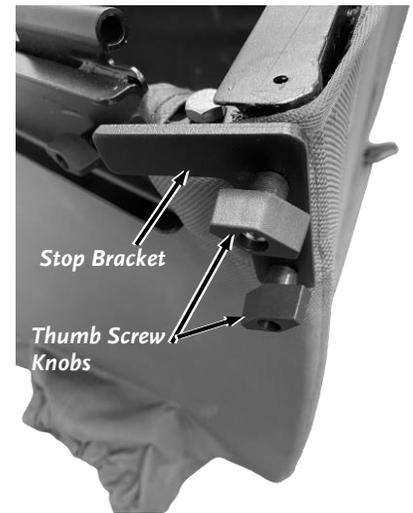

Figure 46
3. Position the bracket so it looks like an upside down "L" facing in towards the center of the canvas. Feed the two bolts through the holes in the bracket and screw the two Thumb Screws back on (**Figure 46**). Tighten the thumb screws down by using a 1/2" wrench on the backside of the hex bolt to prevent it from spinning.